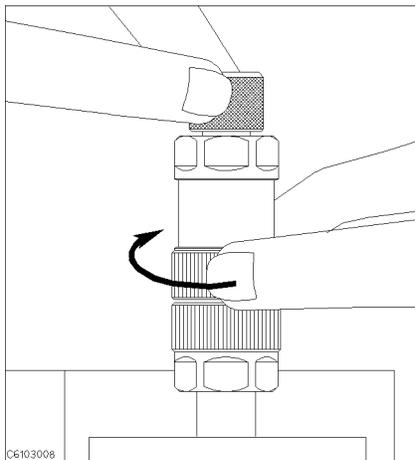

Figure 3-12.
17. Connect the low-loss capacitor to the APC-7[®] connector as shown in Figure 3-12.